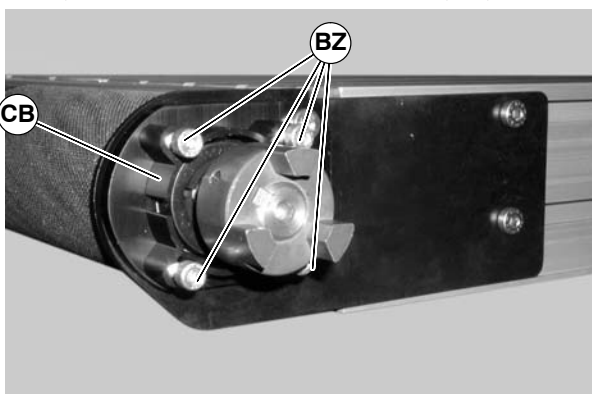

Figure 65
- 4) Remove the four (4) lock screws (BZ of Figure 65) and the short side drive guard (CB).